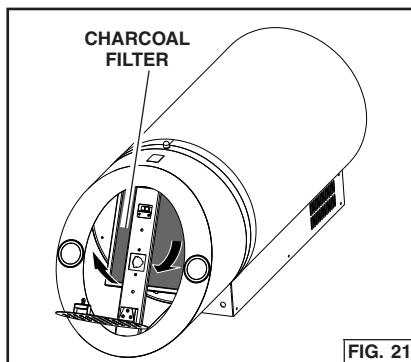

FIG. 21
1. If the hood is non-ducted, insert the charcoal filter into the pocket behind the grease filter. If the hood is ducted, discard the charcoal filter. Fig. 21.